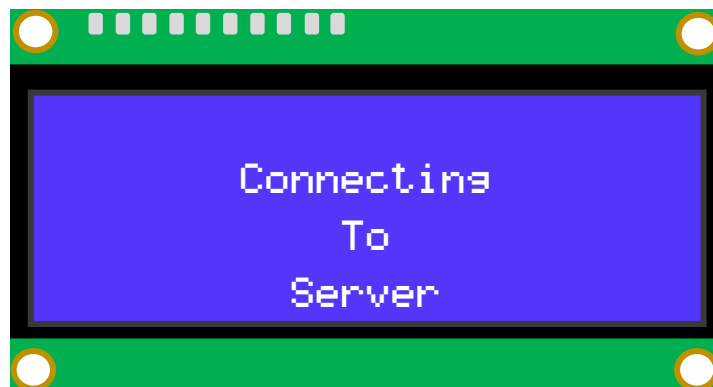

Figure 9 Loss of Internet Connection.
7. In the case of a server failure or loss of internet connection, the display will show the status "Connecting to server." (Figure 9)